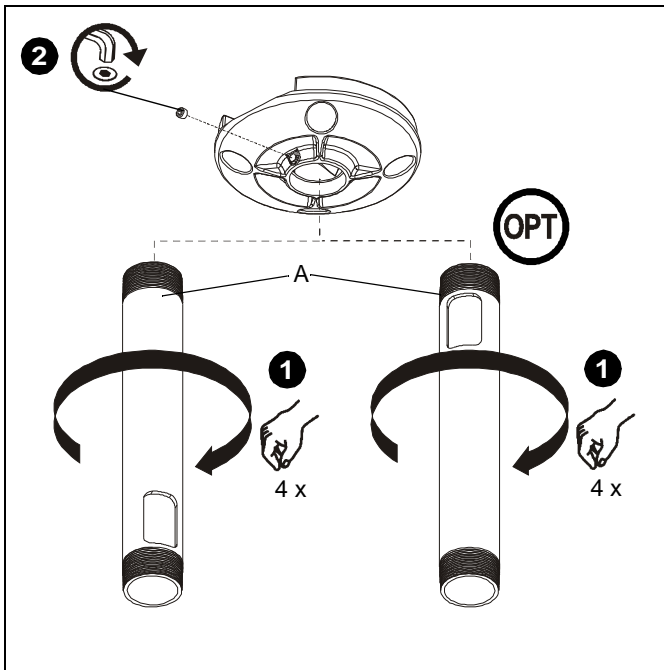

Figure 1
1. Install 1-1/2" NPT threaded column (A) into plate/adapter (See Figure 1). Securely tighten column.
- Ensure column (A) engages four full threads into plate/adapter.
2. Secure column (A) by tightening set screw in plate/adapter (See Figure 1).
3. Install and secure projector/display mount (not included) to lower end of column (A) following instructions included with mount.